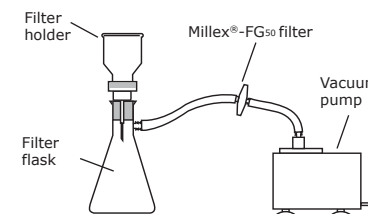

Figure 1. Millex®-FG₅₀ filter pump protection.
- To prevent liquids or vapors from entering the pump when applying vacuum, install the Millex®-FG50 filter in-line between the filter flask and pump (Figure 1).